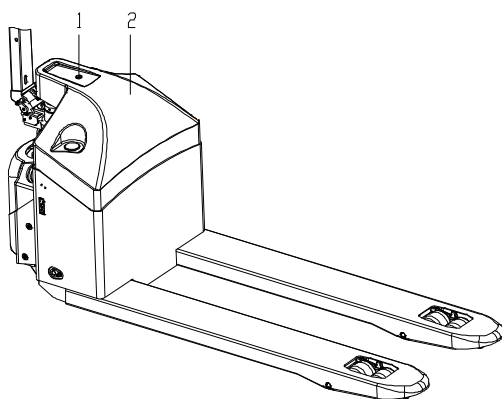

Fig 6
- (Fig 6) loose screw1, remove cover2;